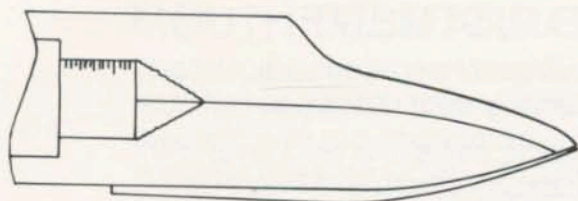

Fig. 2 **In tune position**
3. With the reed lever in the closed position (fig. 2) turn the control up full and back to zero. No change in pitch should be noticed. If the pitch does change, the reed lever has been bent inwards slightly towards the mouthpiece. If so, proceed as follows: